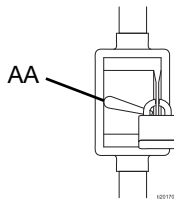

FIG. 8: Electrical Disconnect
NOTE: Ensure that the electrical disconnect (AA) is shut off and locked out before wiring. See FIG. 8.